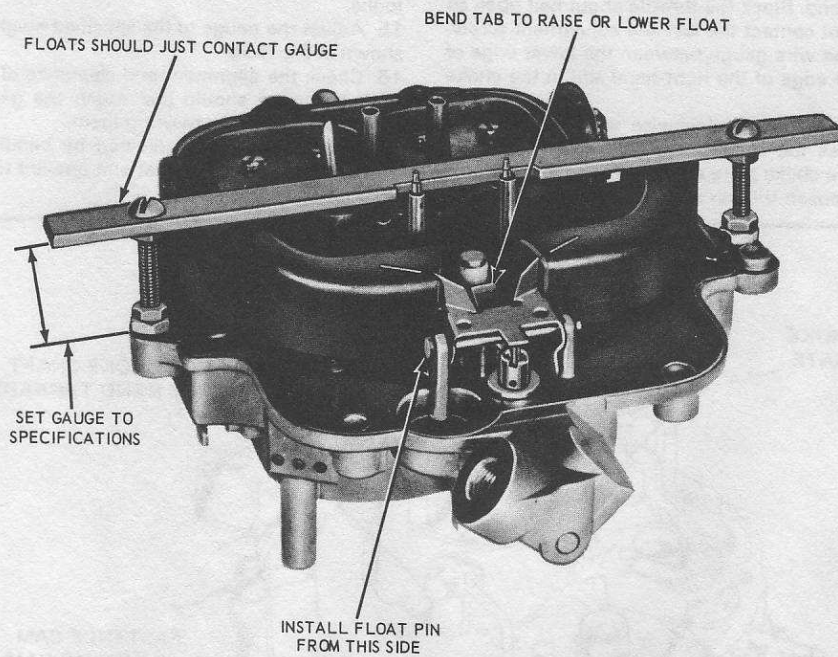

Fig. 3.35 Float setting (4300 carburetor) (Sec. 16)
- 15 Adjust the gauge to the specified height and fit it on the air horn as shown in Fig. 3.35.